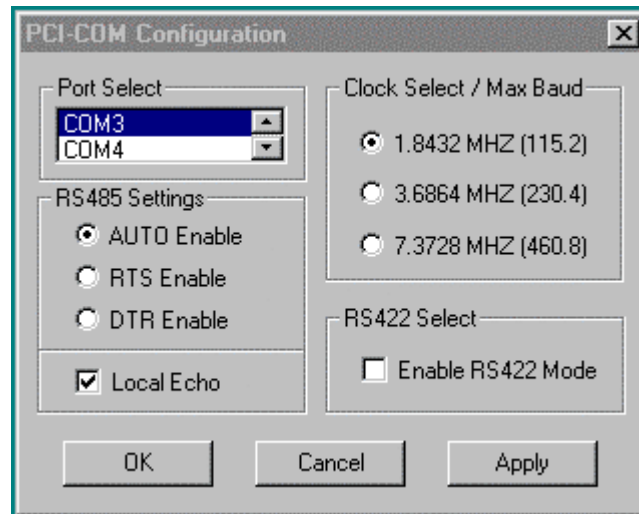

Figure 2-6. Windows NT PCIcom dialog
4. Select the desired maximum clock rate from the dialog shown in Figure 2-6 below.